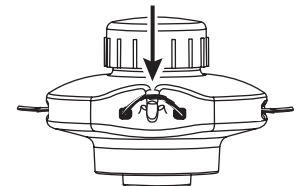

Fig. 16
5. Push the trimmer line behind the hook to secure it from coming loose while running (Fig. 16).